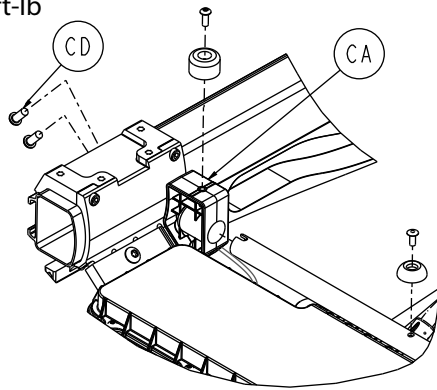

Figure 77 – Remove the Gatch bumper housing
7. Using a T27 Torx driver, remove the two button head cap screws (CD) that secure the Gatch bumper housing (CA) to the hitch bracket (Figure 77). Remove and save the Gatch bumper housing. Save the screws. Repeat on the other side.